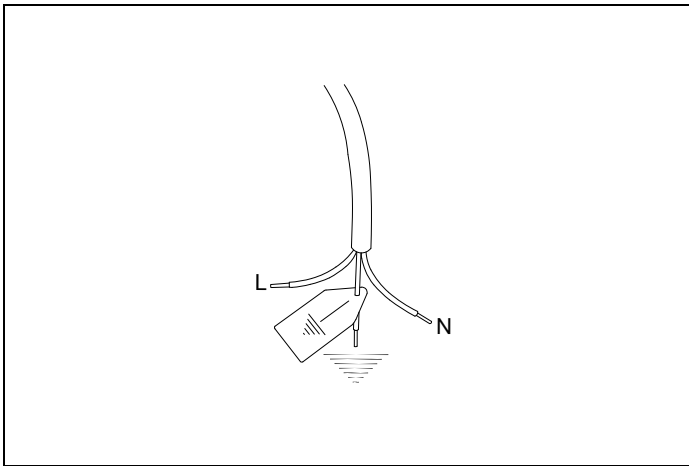

Fig. 14
- Fit the power cable with a regulation plug, which must be suitable for the rated load specified on the appliance data plate. Connect the wires of the power cord in accordance with the diagram in Fig. 14, ensuring you follow the harmonized wiring color scheme: